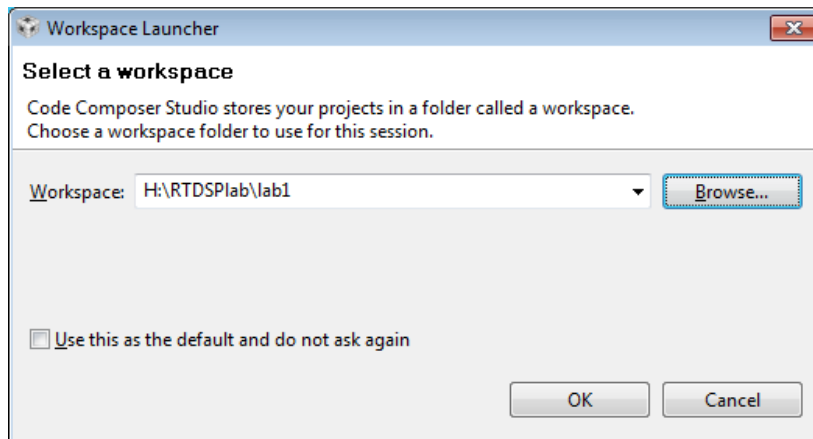

Figure 1: Creating a new workspace
- You are asked to select (or create a new) workspace. By typing exactly what is shown in figure 1 create a new workspace called **lab1** under your **RTDSPlab** folder. Ensure the **Use this as the default and do not ask again** check box is **NOT** checked.